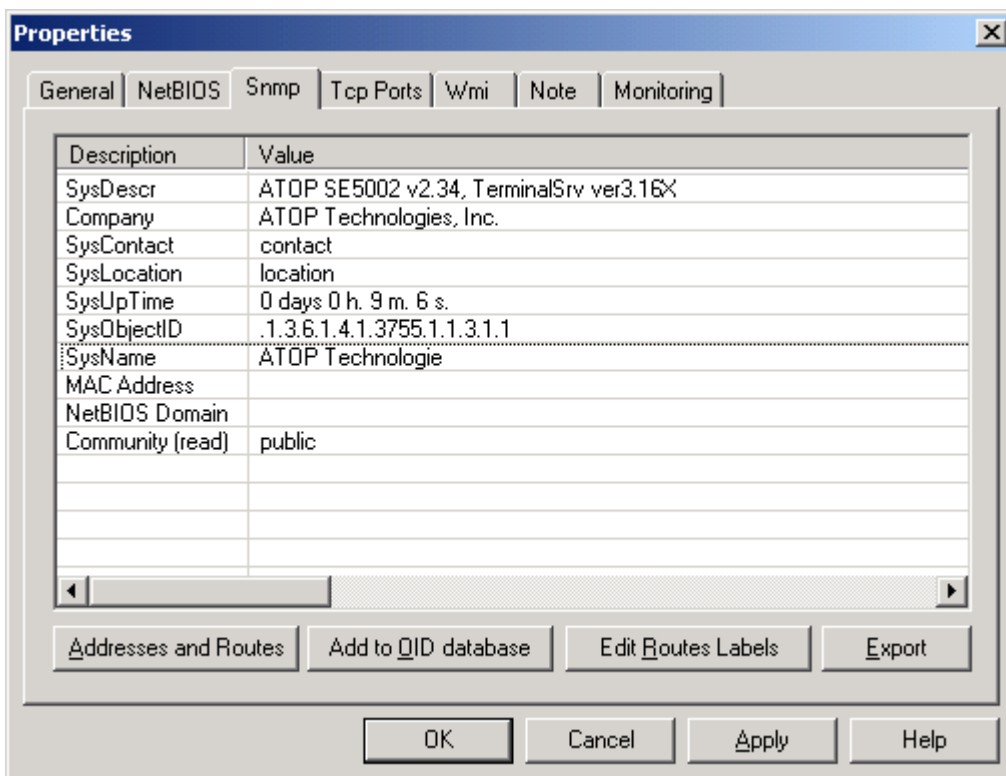

Fig. 43. NetworkView display device information
- 4 Double-click on the device icon to display information about the device, including IP Address, Company, SysLocation (Max 15 characters), SysName (Max 9 characters) and types etc (Fig. 43).